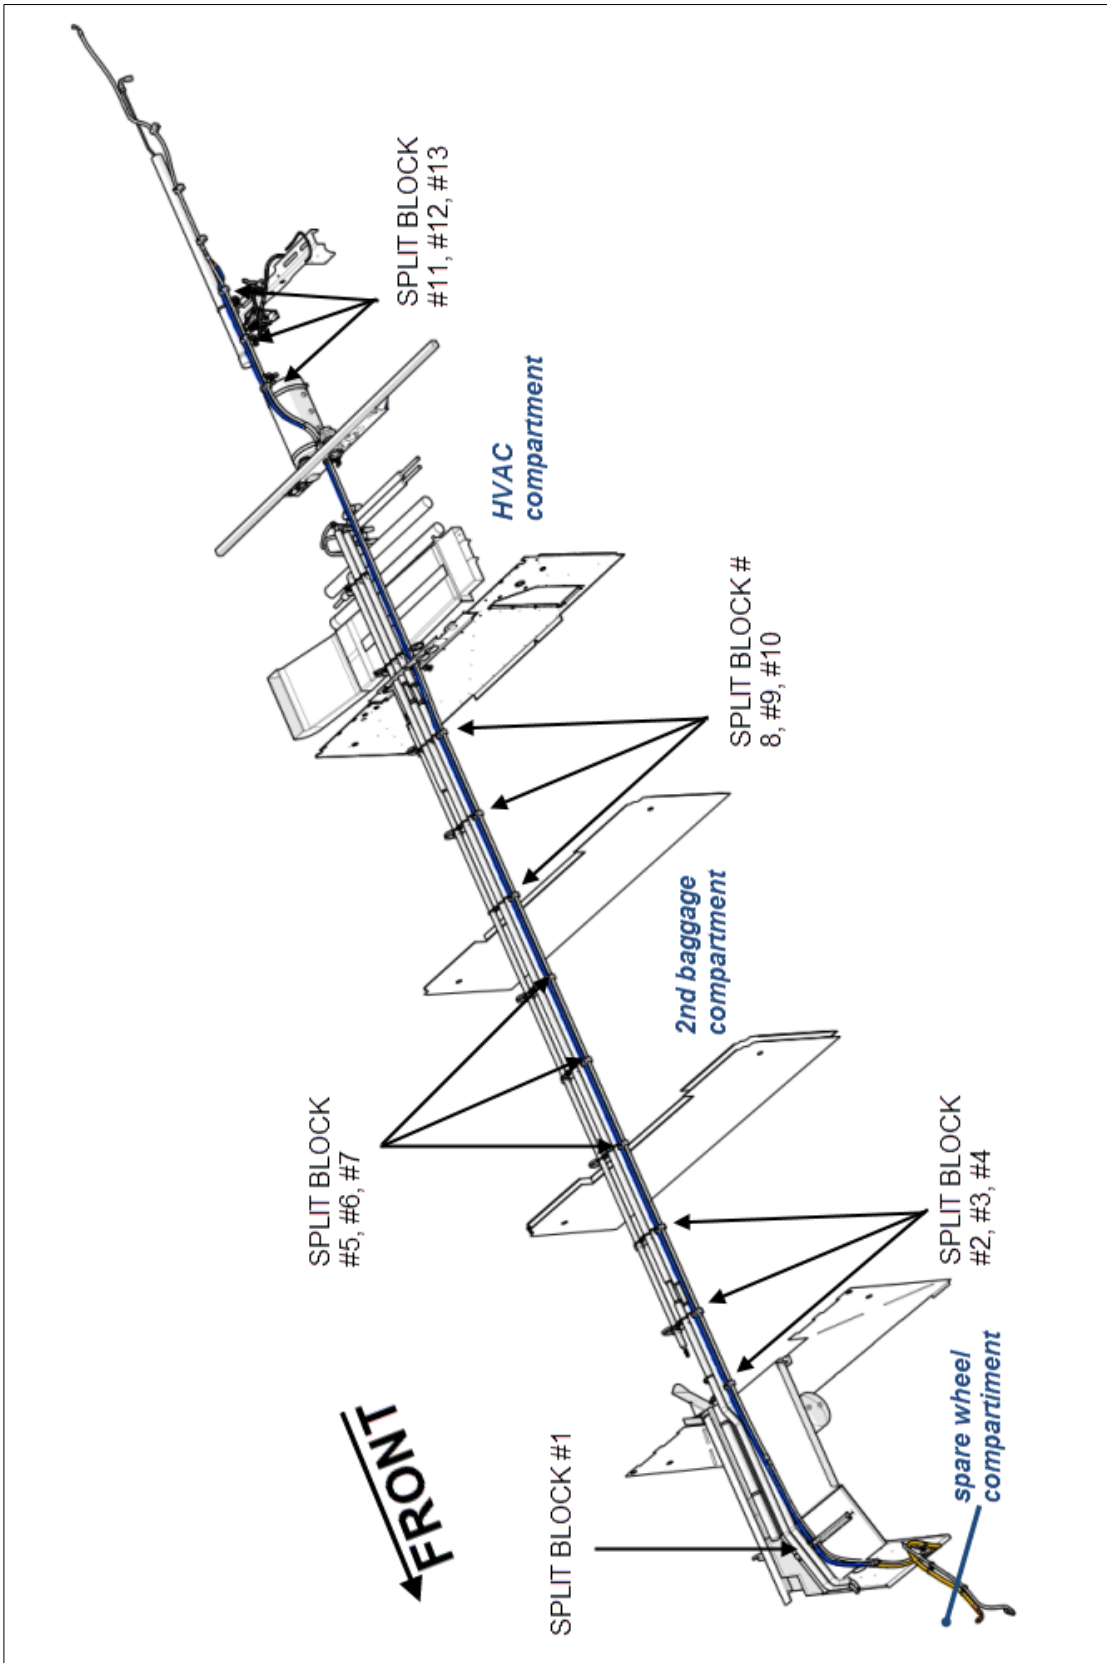

FIGURE 8 : POWER STEERING PUMP DISCHARGE HOSE (PRESSURE)
8. While following the discharge hose from the spare wheel compartment and proceeding one after the other, remove and discard all split blocks identified in figure 8. Save the hardware for reuse.
33. Install the split blocks #504189 (figure 8 & 22).